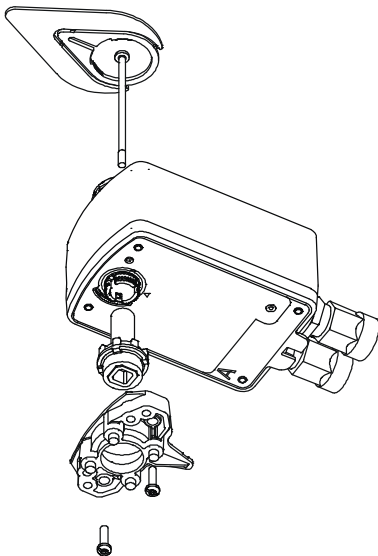

Figure 5: Removing the Linkage
2. Remove the linkage from Side A (Figure 5).